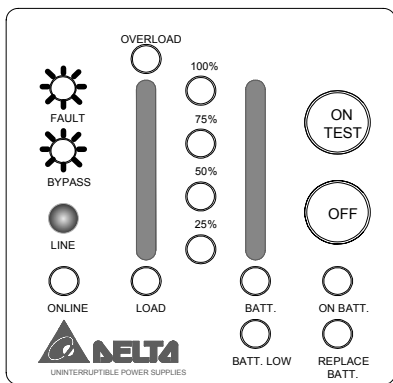
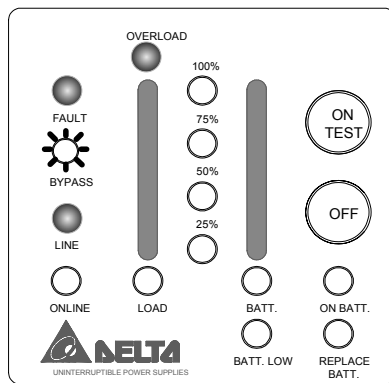

Figure 3-13 (O.T.P.)
Figure 3-14 (Fan Fail)
- ✓ When the UPS inner components overheat, the UPS will protect itself by thermal switches. This status is so-called “**O.T.P**”. Show as Figure 3-13. When the UPS fan is failure. It is show as Figure 3-14.